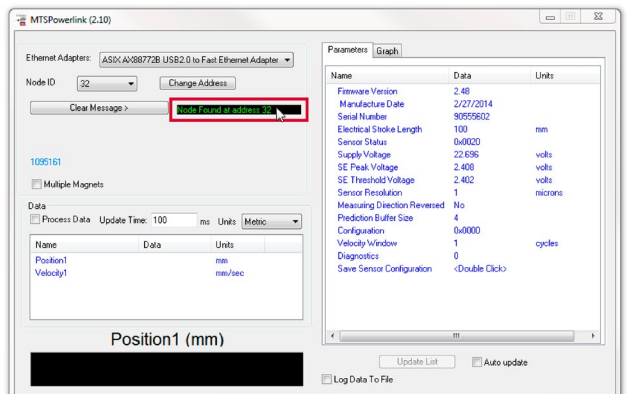

Fig. 53: Node ID found
- The current node ID is displayed (Fig. 53).